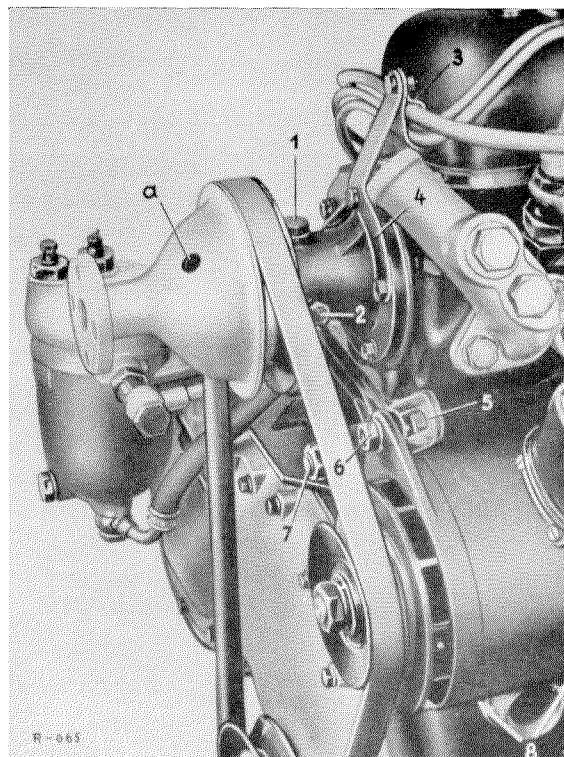

Figure 01-3/1
4. Loosen the two fixing screws (8) at the generator support, the fixing nut (7) and the fixing screw (6) at the generator holder (5). Press the generator towards the engine and remove the V-belt (see Figure 01-3/1).
5. Remove the cooling water outlet pipe. To do this loosen the hose joint clip of the compensating line (see Figure 01-3/6).
6. Remove the vacuum line (2) and the injection lines (3 and 4) and disconnect the drip-oil line (see Figure 01-3/2).
7. Unscrew the oil lines (5 and 7) lubricating the rockers at the cylinder head (see Figure 01-3/2).